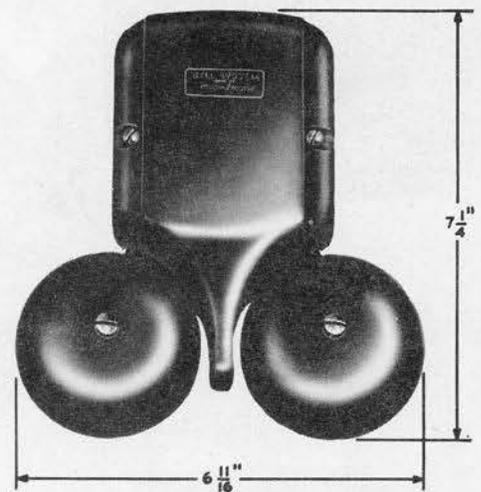

Fig. 2. - 592-Type Subscriber Set
2.03 592 Type: These subscriber sets have high impedance loud-ringing bells and a removable metal cover. The apparatus and exposed 4-inch gongs are mounted on a black finished metal base (Fig. 2). Uses are as follows: